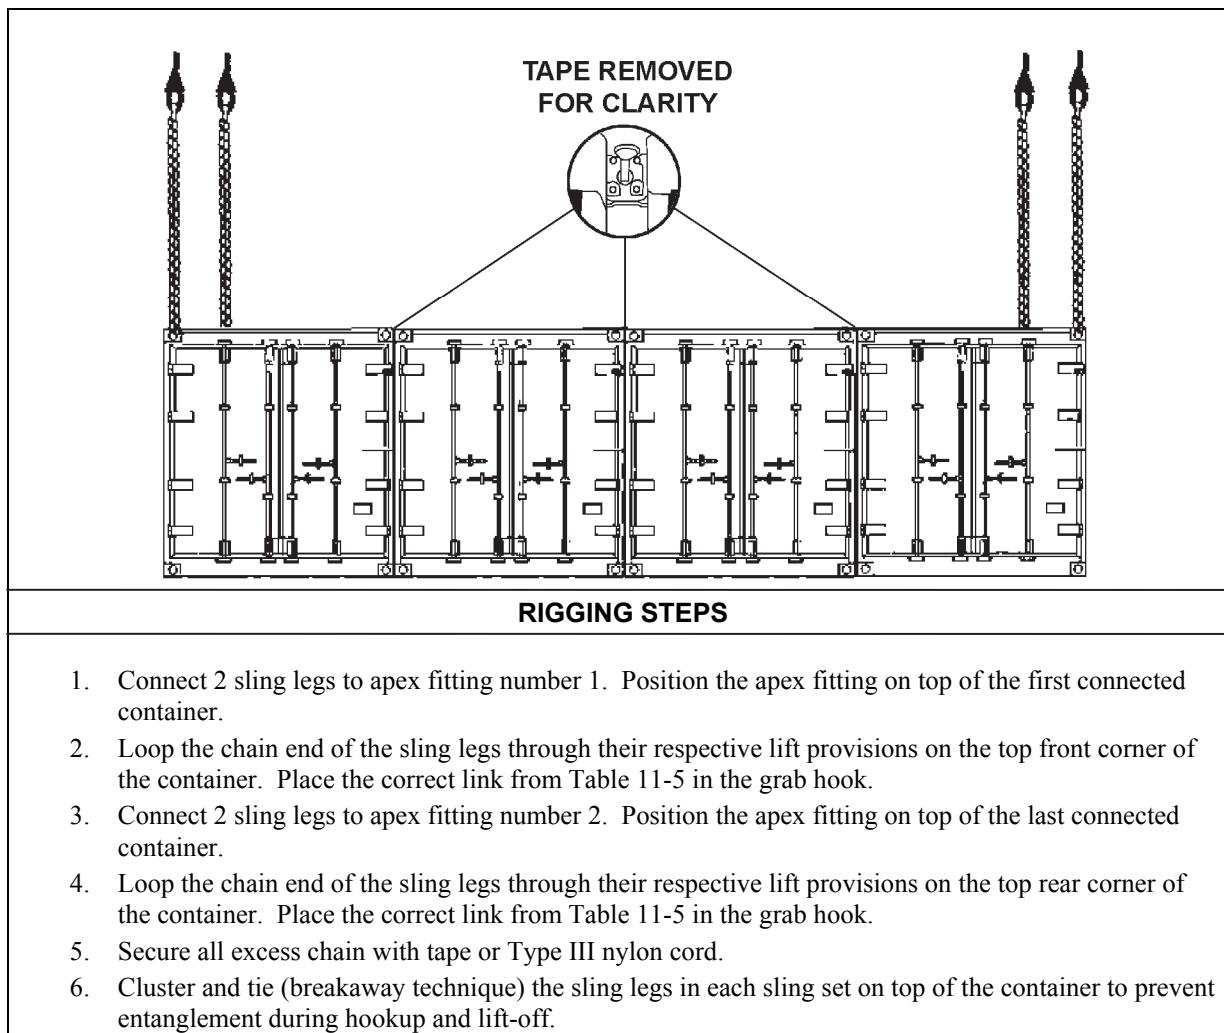

Figure 11-5. Quadcons
- **Rigging.** Rig the load according to the steps in Figure 11-5.